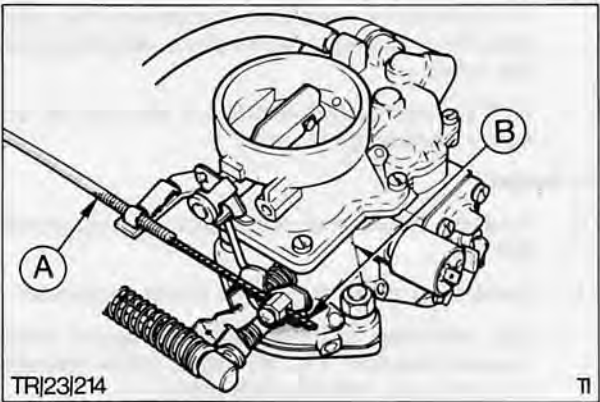

Fig. 90. Choke cable securing points
3. Disconnect cable at carburettor loosen inner cable retaining screw, unclip outer cable retaining clip and detach cable, Fig. 90.